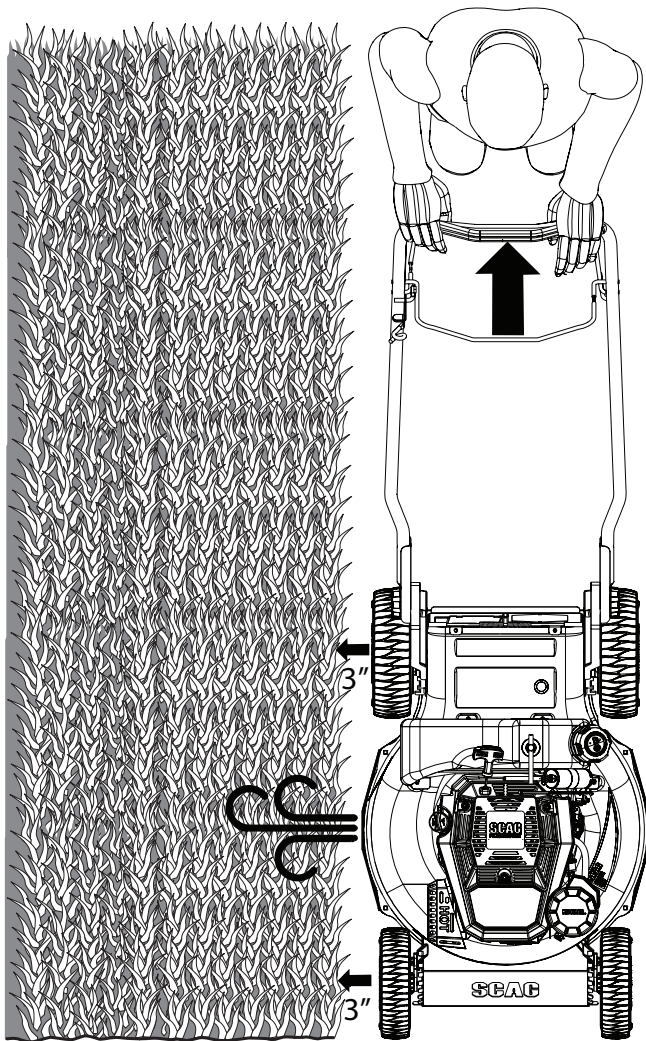

Figure 2-1. Blade Stop
4. Position the machine next to a patch of grass and approximately 3" away. See Figure 2-1.